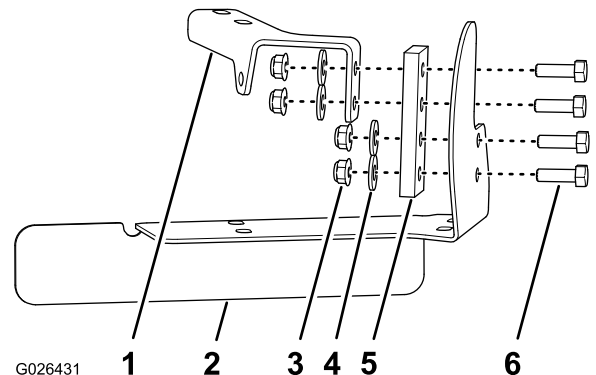
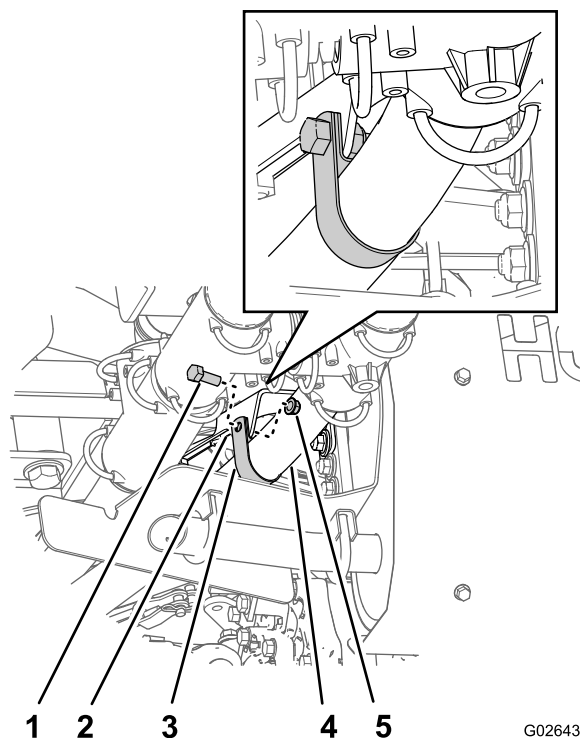

Figure 8
Figure 15
2. Assemble the exhaust hanger to the muffler bracket with 2 bolt (5/16 x 1 inch), 2 washer, and 2 flanged locknuts (Figure 8).
3. Align the 2 remaining holes in the exhaust hanger with the 2 holes in the tail-pipe bracket as shown in Figure 8.
4. Assemble the exhaust hanger to the tail-pipe bracket with 2 bolts (5/16 x 1 inch), 2 washers, and 2 flanged locknuts (Figure 8).
1. Slip the clamp (1-1/4 inch) around the 1-1/4 inch hose that is adjacent to the exhaust hanger for the tailpipe bracket (Figure 8 and Figure 15).
2. Align the hole in the clamp with the hole in the lug of the muffler bracket (Figure 15).
3. Attach the clamp to the bracket (Figure 15) with the bolt (5/16 x 1 inch) and flanged locknut (5/16 inch).